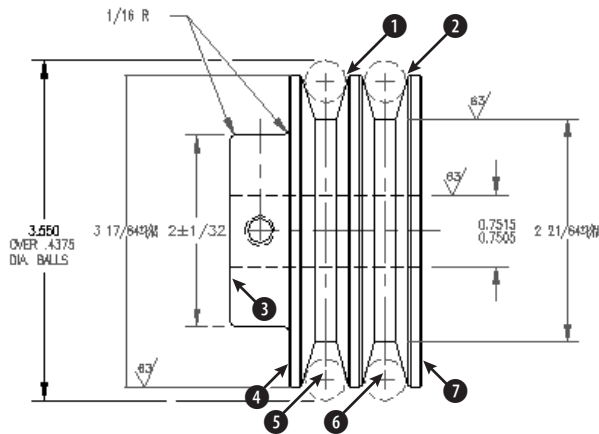

Figure 14-33: You can use Quick Dimension to dimension the circles and create continuous dimensions.
2. Save the file as `ab14-08.dwg` in your AutoCAD Bible folder. This is the same drawing you used in the previous exercise, except that some of the dimensions have been removed (see Figure 14-33). OSNAP should be turned off. If the Dimension toolbar isn't displayed, right-click any toolbar and choose Dimension.
Select geometry to dimension: *Pick the circle at ① in Figure 14-33.*
Select geometry to dimension: *Pick the circle at ② in Figure 14-33.*
Select geometry to dimension: *Pick the line at 3 in Figure 14-33.*